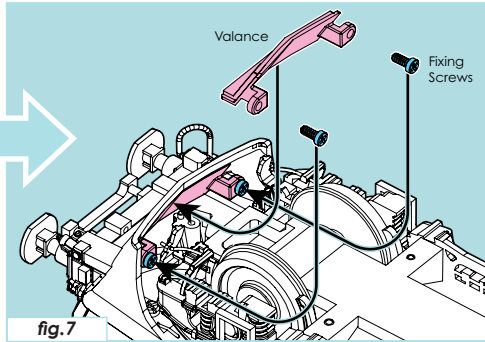

fig.7
2. Position the insert from inside the valance and fix in place using the two screws provided (fig.7).